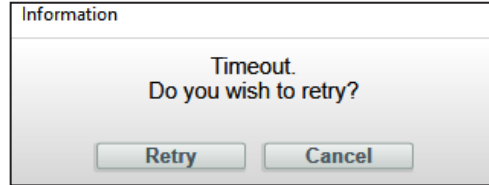
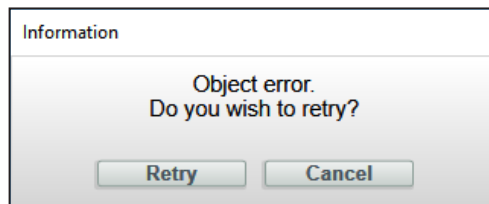

Figure 153. Timeout message.
Figure 154. Object error message.
When attempting to connect a TripSaver II recloser using the service center configuration software, the connection process will timeout if it is unable to create or maintain a wireless connection. See Figure 153. This is generally caused by low signal strength, which can be a result of distance, orientation of the product, interference from other signal sources, or a combination of these. A USB Transceiver is available with an enhanced external antenna to improve signal strength.
- STEP 3.** Reattempt connecting to the TripSaver II recloser. If the Timeout message (see Figure 153) persists or an Object Error message (see Figure 154) appears, (this may be noticeable more often when connection to consecutive TripSaver II reclosers using the same computer), reset the USB transceiver.